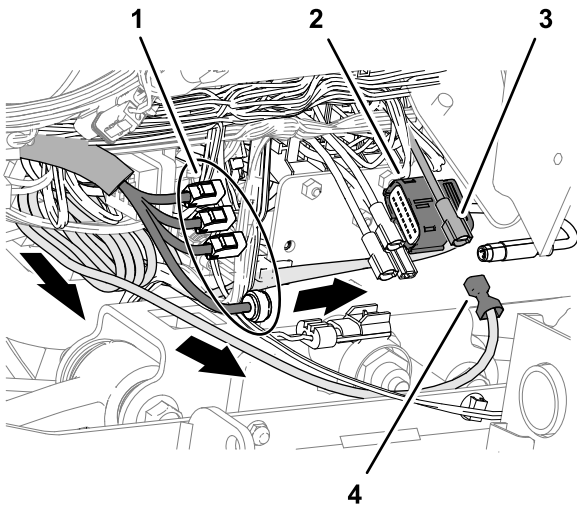

Figure 188
4. At the front of the machine, route the 4-pin connector labeled ETHERNET CL-55 and the 18-socket connector labeled CL55 of the modem power harness to the machine as shown in Figure 188.
5. Plug the terminal of the modem power harness labeled SWITCHED into the socket connector for options power of the fuse block (Figure 188).